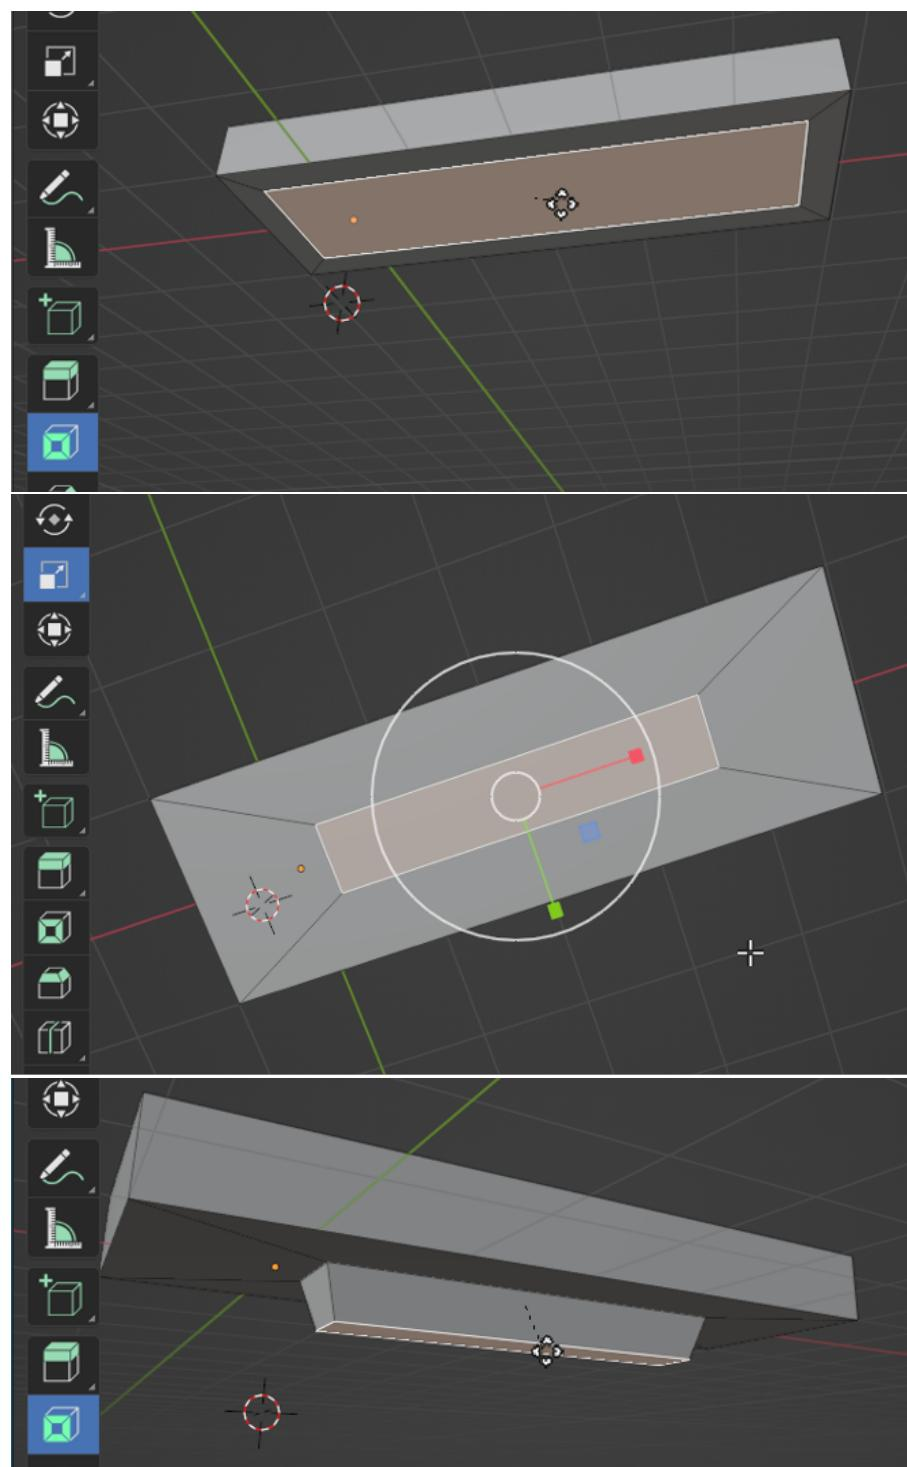

Figure 1.23: Platform inset
- (b) Create inset and decrease its OY dimension using scaling (see Fig.1.23, top).
- (c) Extrude the polygon downwards and narrow it again with Inset + CTRL as follows (see Fig.1.23, center and bottom):